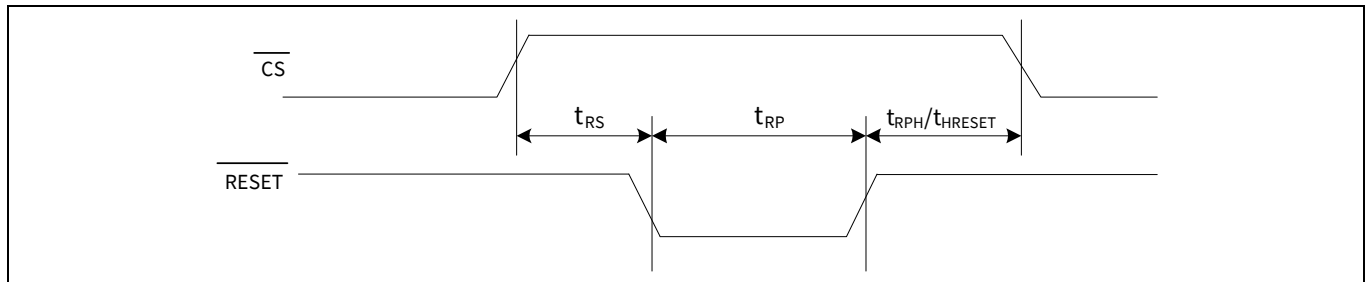
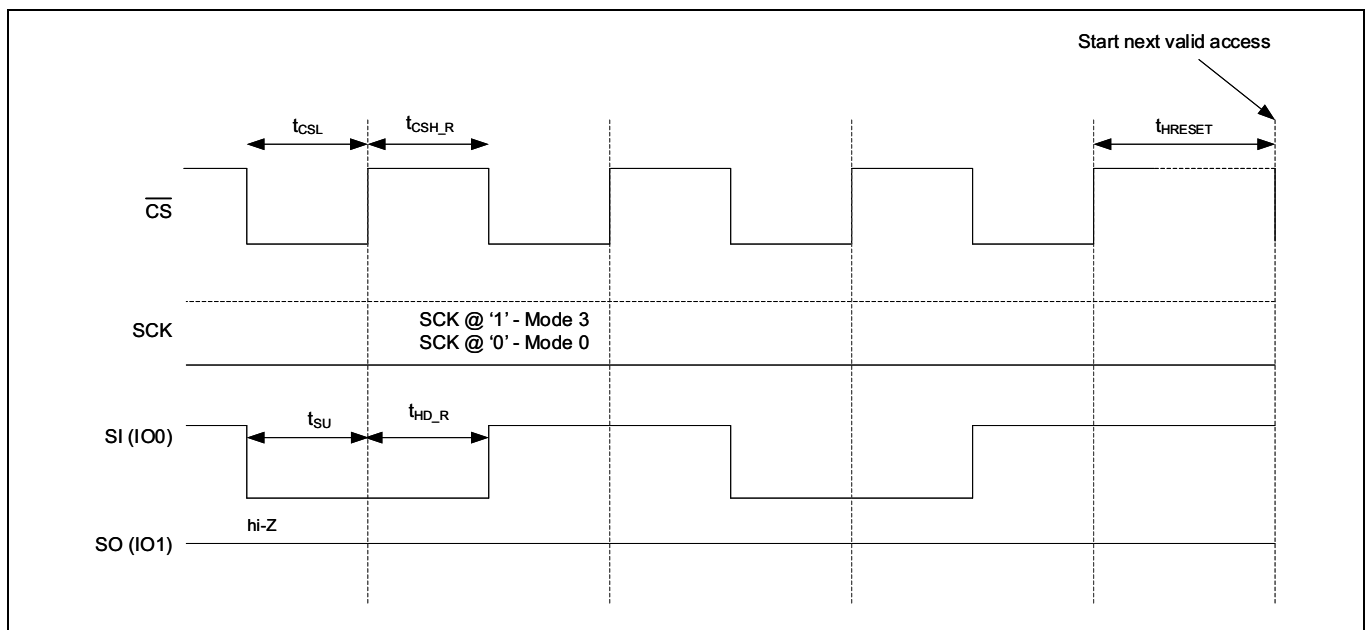

Figure 110 $\overline{\text{RESET}}$ timing - SPI with QUAD set (CR1[1]= '1') or QPI enabled (CR2[6] = '1')
Figure 112 JEDEC SPI reset
The hardware reset input ($\overline{\text{RESET}}$) is multiplexed on ($\overline{\text{RESET}} / \text{I/O3}$) and is an active LOW signal in CY15x104QSN device. Refer to **Table 21** for hardware reset ($\overline{\text{RESET}}$) pin configurations across various SPI interfaces. When $\overline{\text{RESET}}$ is pulled LOW, CY15x104QSN self initializes and brings its configuration back to the power up status. Refer to **Table 59** for different registers configuration after $\overline{\text{RESET}}$ cycle. Once $\overline{\text{RESET}}$ is issued, CY15x104QSN takes $t_{\text{RPH}}/t_{\text{HRESET}}$ time from $\overline{\text{RESET}}$ rising edge to complete the reset cycle. CY15x104QSN becomes inaccessible during t_{RPH} time. **Figure 110** to **Figure 112** show the $\overline{\text{RESET}}$ timings in different reset mode.
- The $\overline{\text{RESET}}$ pin is multiplexed on I/O3 in the QPI mode. When using the hardware ($\overline{\text{RESET}}$) in QPI mode, the CR2 [5] bit must be set to '1' to enable to use I/O3 as $\overline{\text{RESET}}$ input when CS is HIGH. **Figure 110** shows the $\overline{\text{RESET}} / \text{I/O3}$ timing in QPI mode
Refer to Figure 112 for timing details.